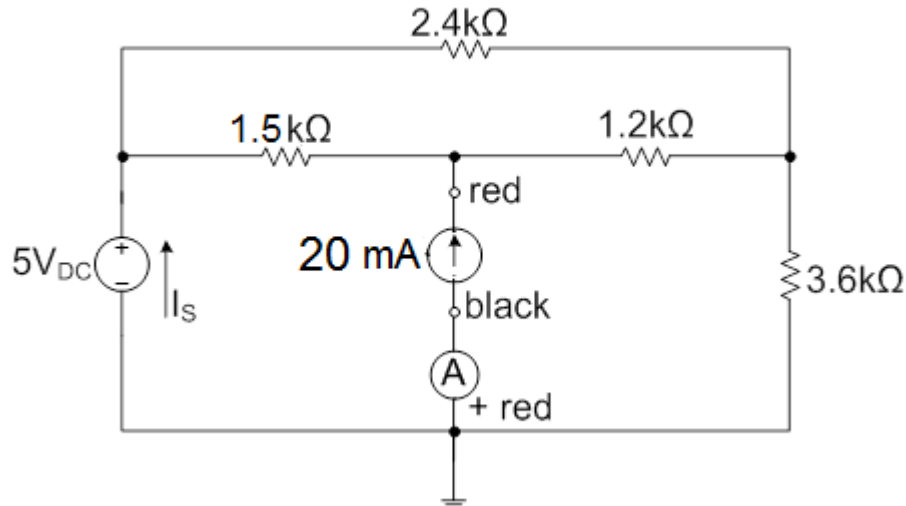

Figure 2-3: Circuit with a current source.
- Copy Figure 2-3 in your lab book. You are going to build this circuit during lab using the resistors in your kit.
- Simulate the circuit in Figure 2-3 in NI Multisim. Measure the voltage and current for each element in the circuit. Organize your calculations and simulation results in a table for comparison. You must submit the screenshot of the circuit with all of the simulated voltages and currents shown.
2.2.1 Construct the circuit of Figure 2-3 on your breadboard. Use the current limiting function of the DC power supply to create a current source by connecting the +25V port (red lead at the top and black lead at the bottom). Set the display limit function to set the voltage limit to +25V (higher than you need) and the current limit to **500 mA** before turning the output on. (Note the power supply displays the current in units of Amps. $20\text{mA} = 0.020\text{A}$). Use the +6V port to set the voltage source $V_s = 5\text{V}_{\text{DC}}$. Make sure the current limit of the 5V voltage source is set to at least **500mA** (higher than you need). Make the rest of the connections to the resistors as shown in the circuit.
- Circuit of Figure 2-3 with all components labeled with nominal values